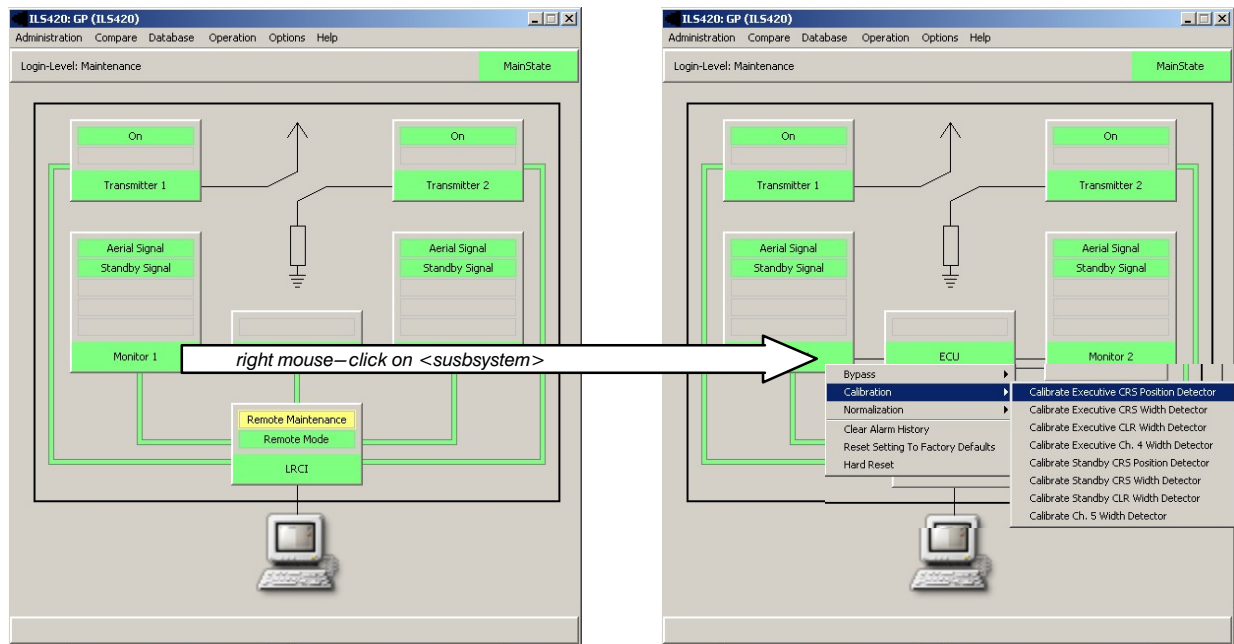

Fig. A-47 MCS 1st Equipment Level window with <subsystem> commands (example)
- Open the pull-down menu with the commands for the <subsystem 1> via right mouse-click on the <subsystem 1> label in the MCS 1st Equipment Level window (see Fig. A-47).
- Select submenu <list>, then select <command> (see Fig. A-47), send command to the equipment by left mouse-click on the selected item.